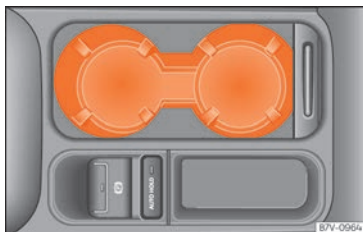

Fig. 193 Front centre console: drinks holder.
- To open, move the cover backwards »» **Fig. 193.**